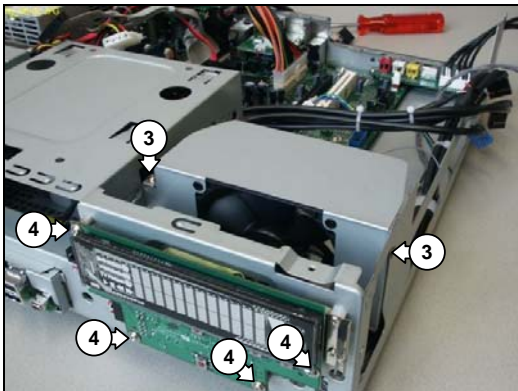

Figure 12.8-2
6. Remove the 2 mounting screws (3) from the CPU fan. See Figure 12.8-2.
7. Remove the 4 mounting screws (4) from the VFD board. See Figure 12.8-2.